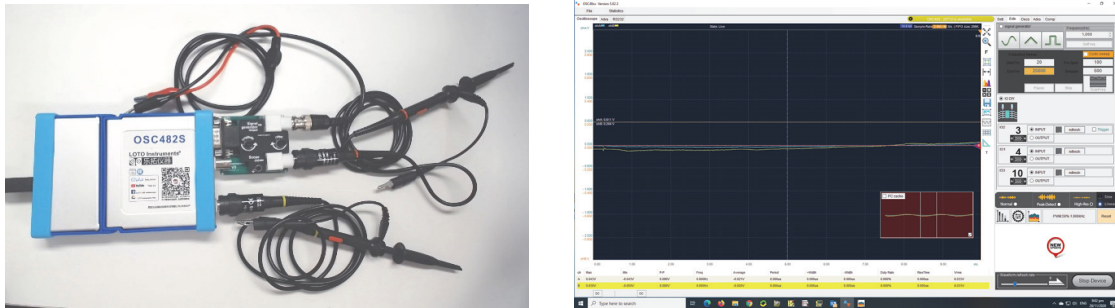

Fig. 16
- 5.3.2 Connect the USB oscilloscope to the computer, and start the USB oscilloscope program, as shown in Fig. 16. You should enable “High-Res” for better waveform display.